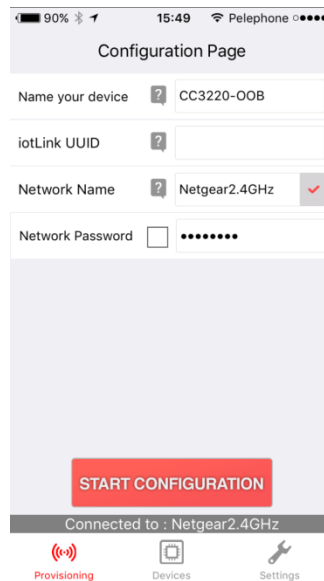

Figure 16. Wi-Fi Starter Provisioning Tab
2. Navigate to the provisioning tab to configure the AP credentials. Click on the START CONFIGURATION button to start the process (see Figure 16).